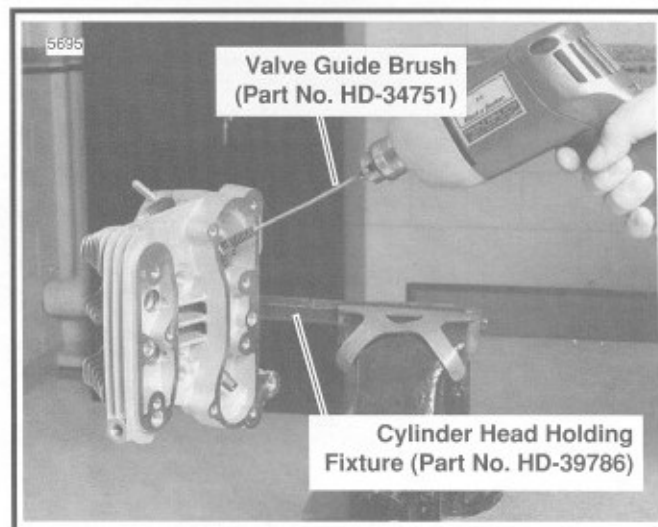

Figure 3-19. Honing Valve Guides
- See Figure 3-19. Apply the proper surface finish to the valve guide bores using the VALVE GUIDE HONE (Part No. HD-34723). Lubricate hone with honing oil. Driving hone with an electric drill, work for a crosshatch pattern with an angle of approximately 60°.